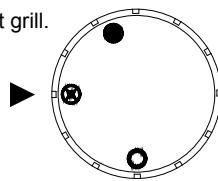

Fig. 23a
4. Wait (5) minutes to clear out any gas. Then smell for gas, including near the floor. If you smell gas, STOP! Follow "B" in the safety information above. If you don't smell gas, go to the next step.
5. Push in gas control knob slightly and turn counterclockwise  to the PILOT "X" position. (See Fig. 23a) Depress control knob.